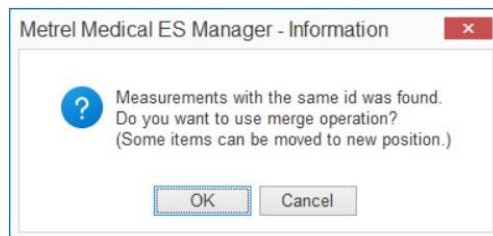

Figure 7.5: Merge confirmation information window
- **Same unique identifications were found:** merge confirmation information window on **Figure 7.5** appears on the screen.